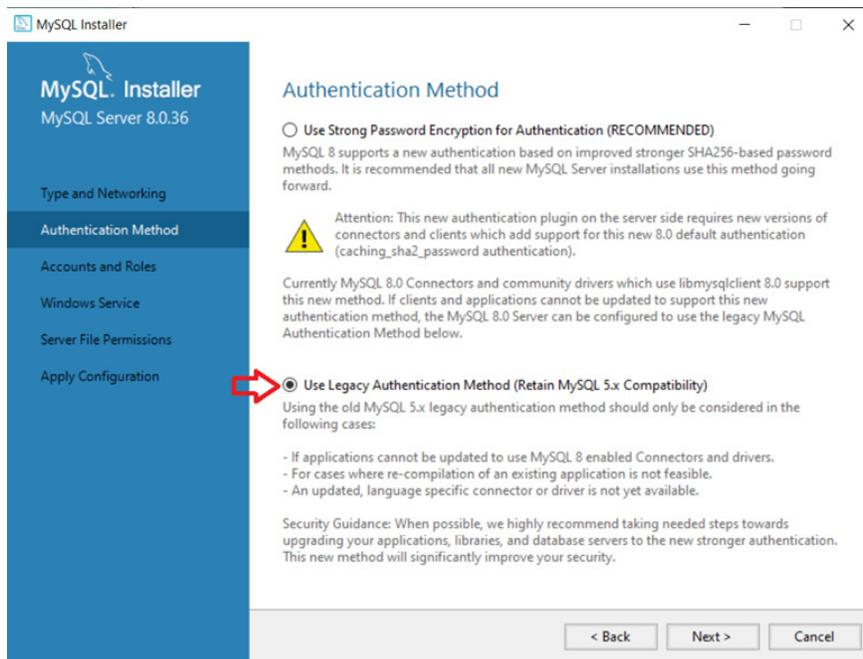

Figure A8
8. On the "Authentication Method" screen, select "Use Legacy Authentication Method" and click "Next". (Figure A8)